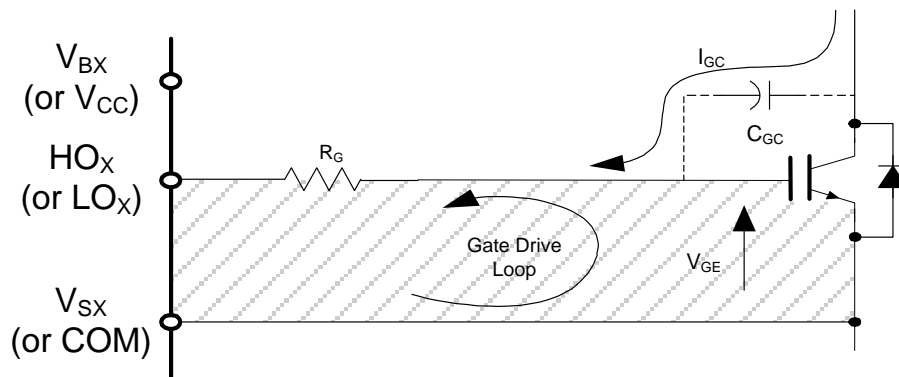

Figure 31: Antenna Loops
- Gate Drive Loops: Current loops behave like antennas and are able to receive and transmit EM noise (see Figure 31). In order to reduce the EM coupling and improve the power switch turn on/off performance, the gate drive loops must be reduced as much as possible. Moreover, current can be injected inside the gate drive loop via the IGBT collector-to-gate parasitic capacitance. The parasitic auto-inductance of the gate loop contributes to developing a voltage across the gate-emitter, thus increasing the possibility of a self turn-on effect.